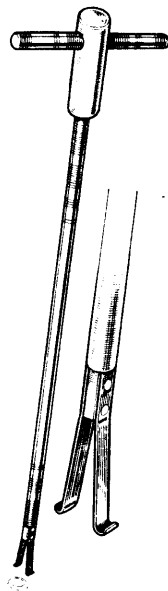

Fig. 2
- Extract the bushings and sleeves with the 2-jaw puller, No. 100006 (fig. 2).